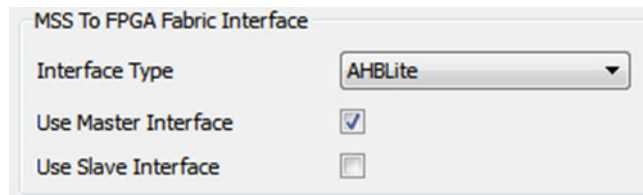

Figure 5-1 • MSS to FPGA Fabric Interface Options
- Whether you intend to use the interface as a slave mastered by the FPGA fabric (Figure 5-1)